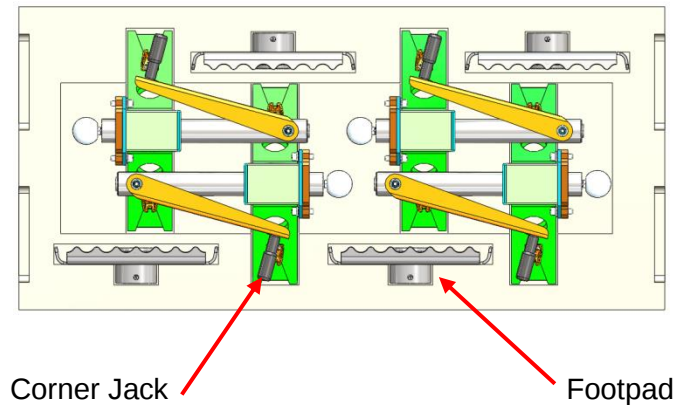

Figure 56. Case No. 1 Pack-Up
54. Remove corner jack from foot plate and place in Case 1 as shown in Figure 56.
56. Place the four foot pads in Case 1 as shown in Figure 56.